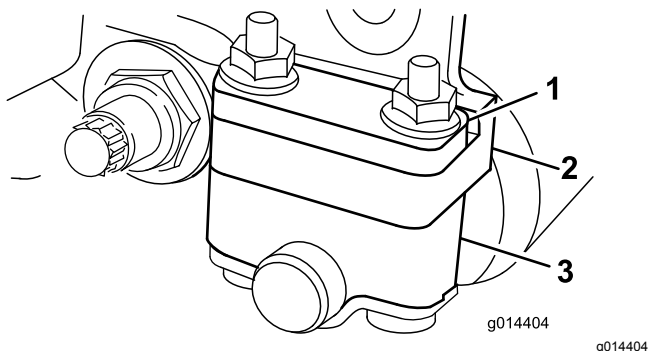
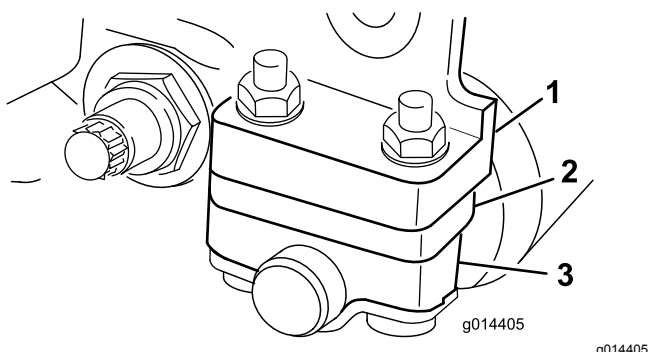

Figure 10
Figure 11
Depending on your desired height-of-cut range, adjust the rear roller brackets (Figure 10 or Figure 11) to the low or high position:
- Position the spacer above the sideplate-mounting flange (factory setting) when the height-of-cut settings range from 1.5 mm to 6 mm (1/16 inch to 1/4 inch) as shown in Figure 10.
- Position the spacer below the sideplate-mounting flange when the height-of-cut settings range from 3 mm to 25 mm (1/8 inch to 1 inch) as shown in Figure 11.
4. Place the spacers onto the screws above of below the roller brackets, as required (Figure 10 or Figure 11).